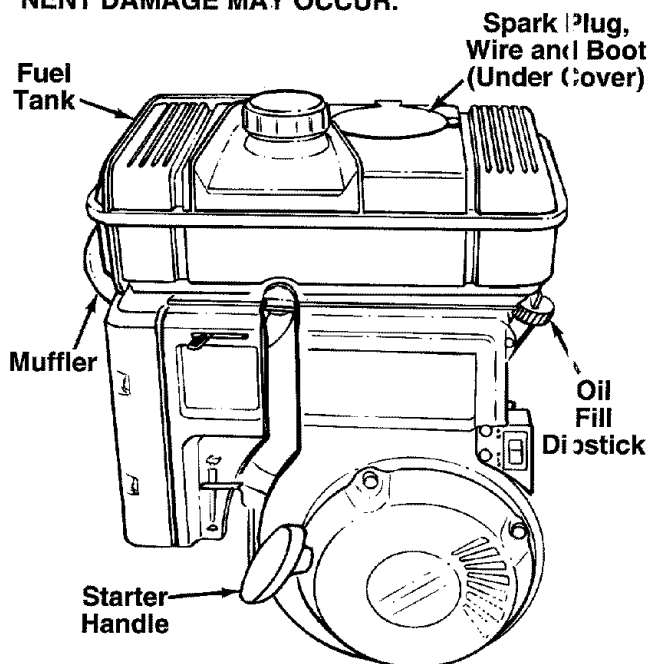

FIGURE 13.
MAKE CERTAIN THE SPARK PLUG WIRE IS DISCONNECTED AND MOVED AWAY FROM THE SPARK PLUG BEFORE ASSEMBLING THE CHIPPER-SHREDDER. REFER TO FIGURE 13, PAGE 10.
- Disconnect spark plug wire and move away from spark plug to prevent accidental starting while equipment is unattended. See figure 13.
- Open cover (on top of fuel tank) and attach spark plug wire and rubber boot to spark plug if necessary. Replace cover. See figure 13.
- Grasp starter handle (see figure 13) and pull rope out slowly until engine reaches start of compression cycle (rope will pull slightly harder at this point). Let the rope rewind slowly.